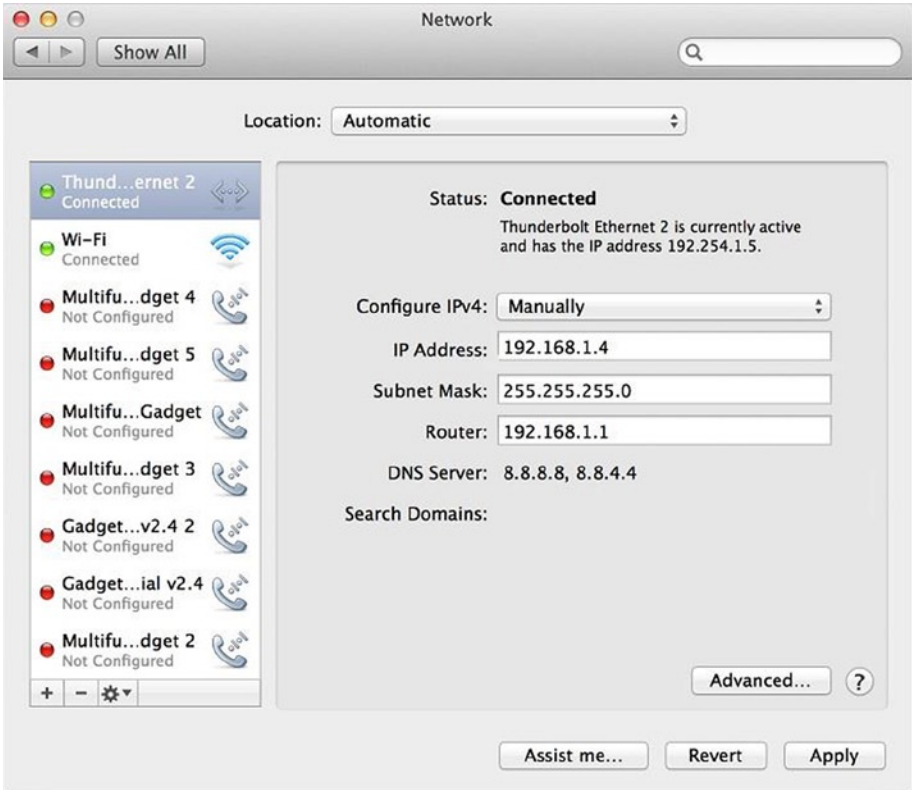

Figure 5-18. Ethernet cable connected and static IP ready
5. Connect Intel Galileo to your Mac using the Ethernet cable. You should be able to see the cable with its Status changed to Connected, as shown in Figure 5-18.